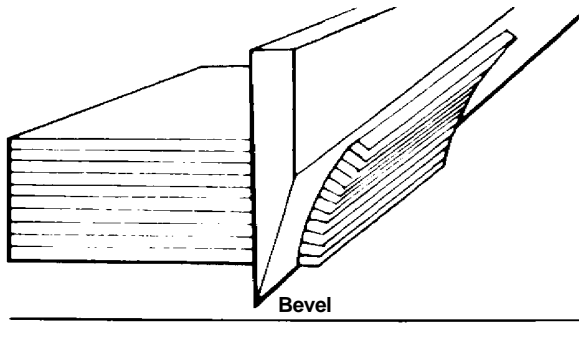

Figure 4. Cutting Stacks of Film
- Prevent cracking of certain films by using a double cut. Put the waste portion of the stack against the bevel edge of blade. See Figure 4.